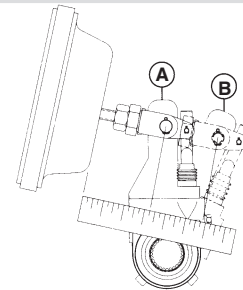

Figure 5 - Measuring Maximum Stroke
3. Using a ruler, measure the distance from the face of the air chamber to the center of the large pin in the clevis (A) (See Figure 5). Make an 85 psi brake application and allow the chamber push rod to travel its maximum stroke. Measure to the center of the large pin (B). The difference between (A) and (B) is the push rod stroke. Check the following chart for proper maximum stroke after adjustment of the brakes.
1. The CSI Midland/Gunite automatic brake adjuster should not require manual readjustment. If the maximum chamber stroke is within the range for the size chamber used (See Figure 5), the brake adjuster should not be manually readjusted.